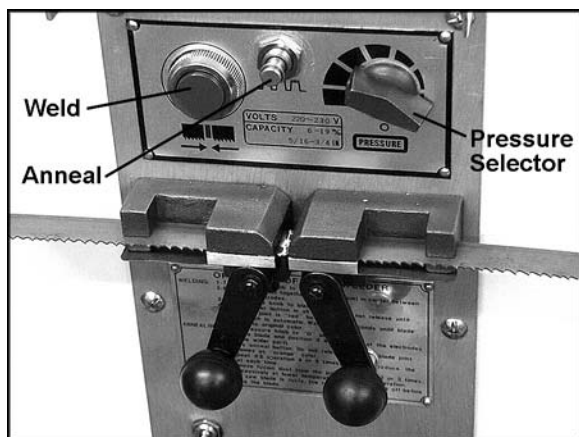

Figure 15
- Turn pressure knob (Figure 15) to "0" position (pointed downward). NOTE: There will be some resistance when turning knob.
- Press and hold weld button (Figure 15). When weld button is pushed, the left clamp moves to the right to apply pressure to the blade ends. Simultaneously, sparks will be emitted from the blade ends as they are being welded. Do not release weld button until blade joint is "red hot."
- Quickly press and release ("jog") the anneal button (Figure 15). Repeat jog process until you see a slightly red glow from weld area.